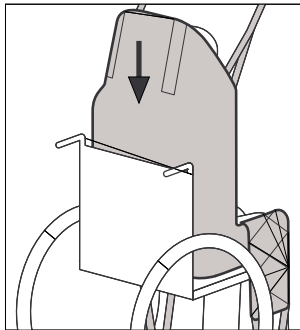

Figure 1
3. Sit the client back against the sling. **Figure 1.**